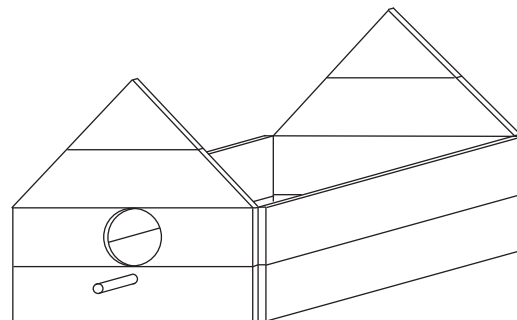

FIGURE 9-67 Birdhouse panel assembly.
- Assemble both sides and both end panels on the bottom, Figure 9-67. Put the tack welds to